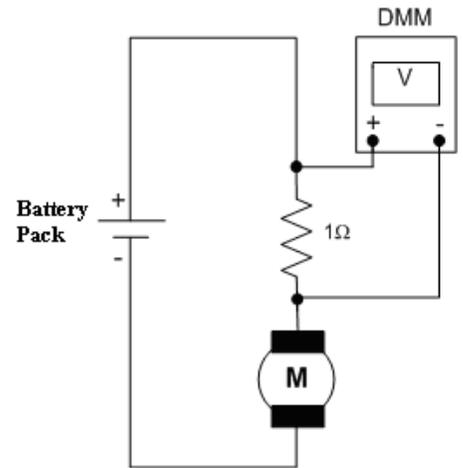

Figure 3.6: Measurement Circuit 2V setting
4. Now build an improvised ammeter by placing a 1Ω resistor in series with the motor, and measuring the voltage across it. The circuit is shown in Figure 3.6. The current through the motor is computed using Ohms Law $I = \frac{V}{R}$. Use the DMM in the 2V setting (not mA). Measure and record the voltage across the 1Ω resistor.